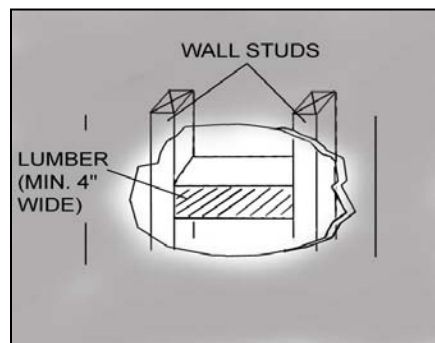

Figure 22
- If necessary, prepare back wall frame with cross framing lumber for secure installation. Using references on Table 2 and measurements on page 22-23, decide the level of the lumber. Refer to Figure 22.